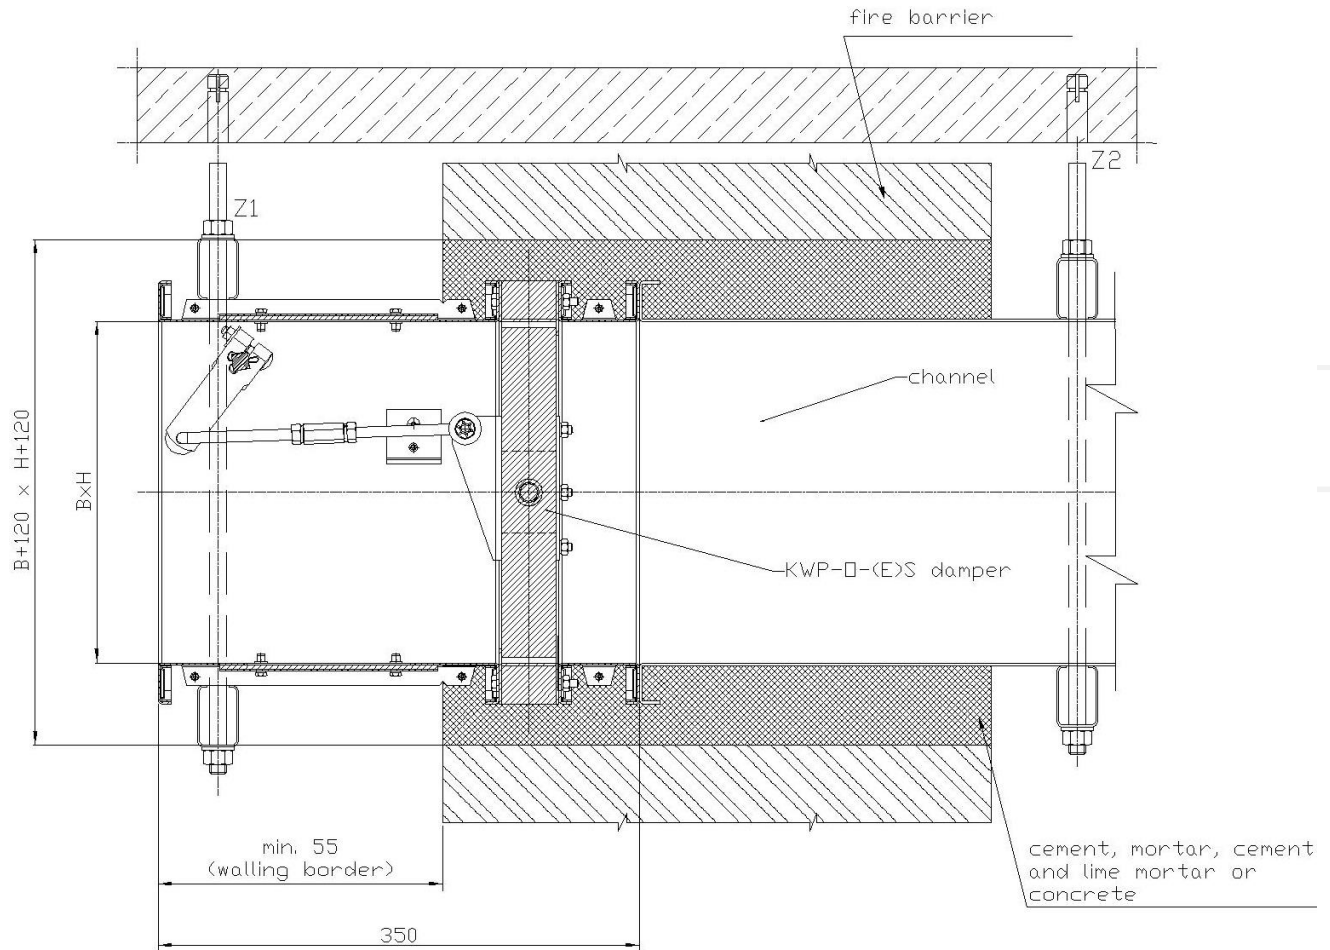

Figure 7. Installation method of fire dampers in structures thicker than 135 mm
The KWP-O-E(S) damper can be installed also in horizontal compartments thicker than length of damper's body. In this case, ventilation ducts are going to be partially inbuilt in the fire compartment (Figure 7).